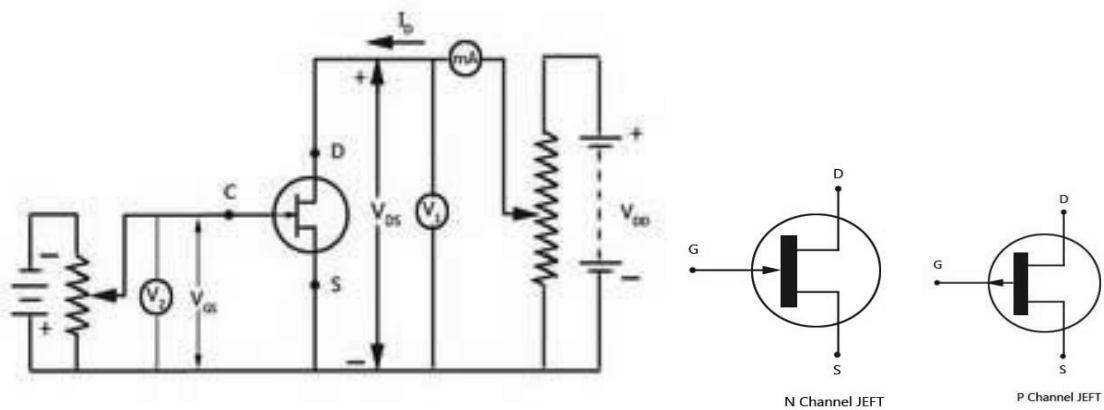

Figure 3: FET characteristic and its symbol
1. Connect the electrical circuit as shown in fig 3.